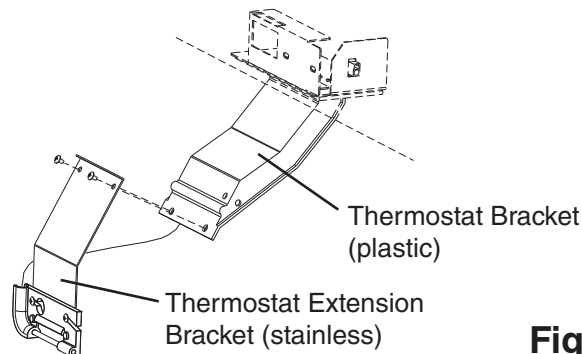

Fig. 4
- h. Remove the 2 screws from the lower part of the thermostat bracket (plastic) and use them to attach the thermostat extension bracket (stainless) to the thermostat bracket (plastic). See Fig. 4.